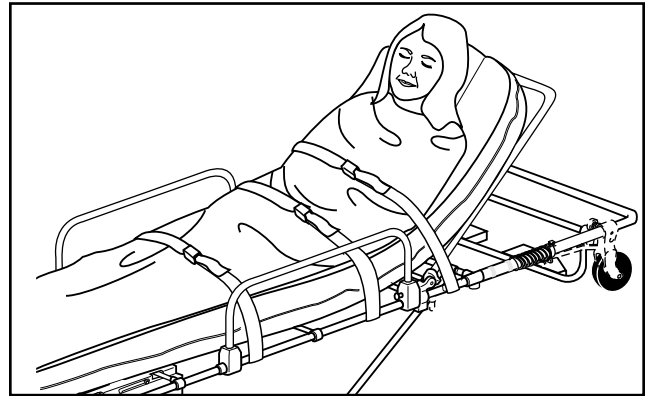

Figure 21 - Using Patient Restraints
7. Fasten and adjust the patient restraints (Figure 21).